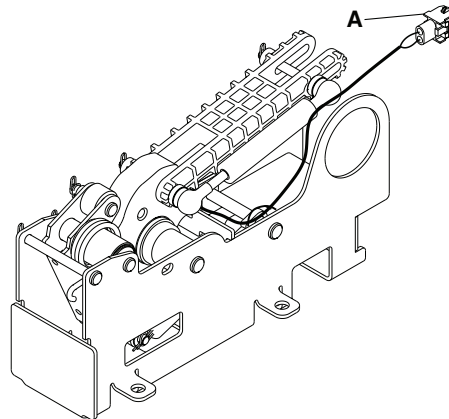

Figure 21 – Cam positioning cable
6. Disconnect the cam positioning cable (A) (Figure 21).